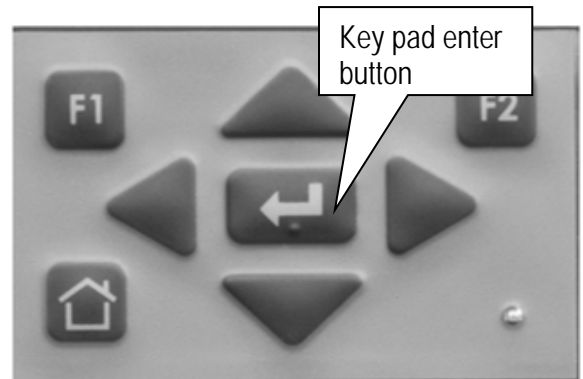

Figure A3
**NOTE:** During this procedure you will be asked several times to "select enter on the key pad". Each time, use the key pad enter button shown in Figure A3.